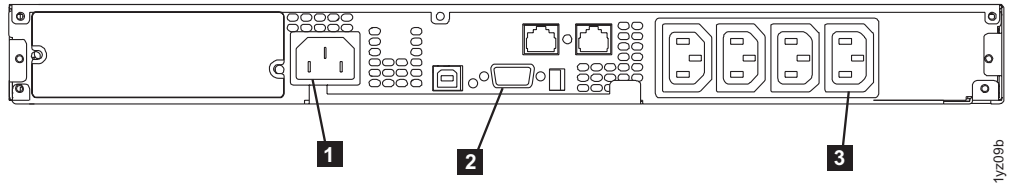

Figure 179. 2145-1U Uninterruptible power supply (rear view)
2. At the back of the 2145 UPS-1U, remove the power cable retainer before disconnecting the SAN Volume Controller power cable from load segment receptacle 2 (**5** in Figure 179 on page 446).